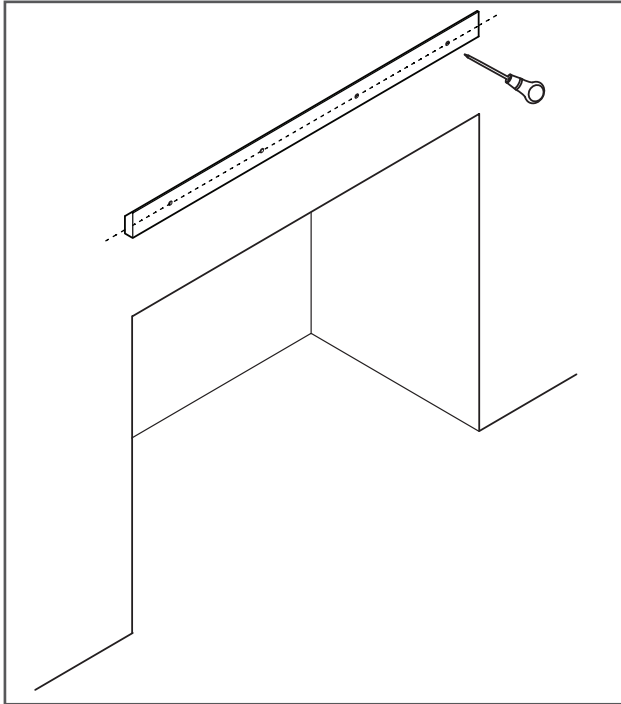

Figure 4
6. Place the cleat on the cleat line made in step 1 (Figure 4).
7. Mark the wall with an awl through the pilot holes in the cleat. Set the cleat aside (Figure 4).